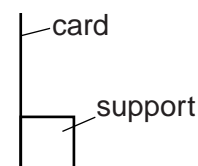

Fig. 4.3
- (iv) Screen. A white sheet of stiff card approximately 150 mm × 150 mm, fixed to a wooden support is suitable (see Fig. 4.3).